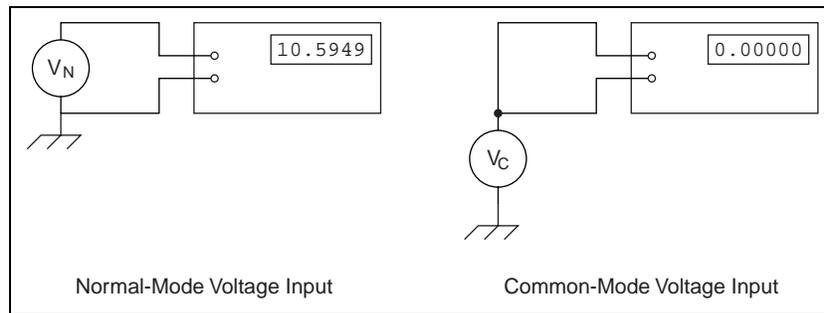

Figure 1. Normal-Mode and Common-Mode Applied Voltages
- **Normal Mode** – an indication of a differential change at the inputs of the measuring instrument (see Figure 1).
- **Common Mode** – an indication of an equal change on both inputs of the measuring instrument (see Figure 1).